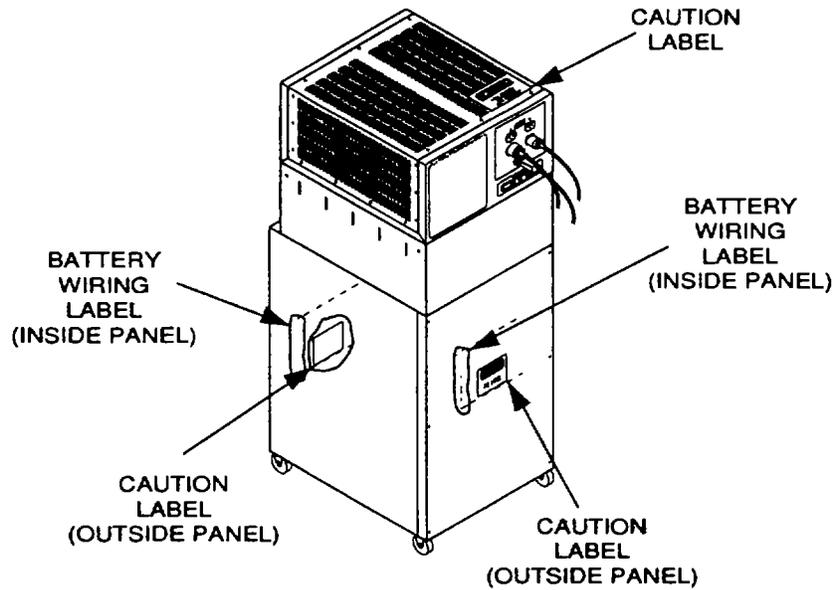

Figure 2-7 Location of UPS Labels.
■ The decals, labels, and identification plates are shown in Figure 2-7 thru Figure 2-10.